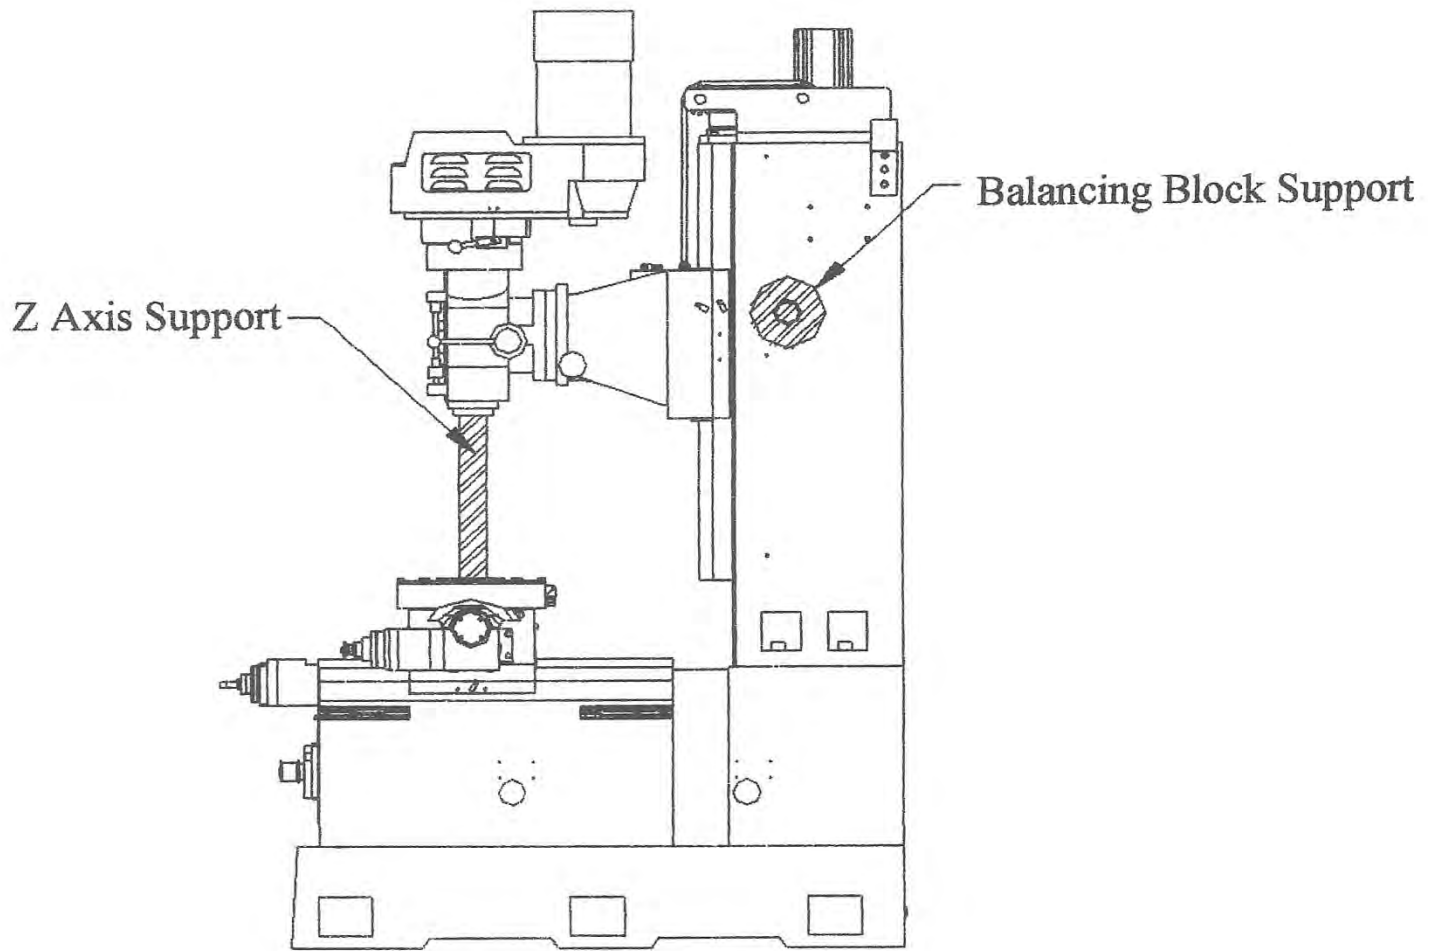

Figure 5-1
- c. Z axis ball screw is fixed by the wooden block under the spindle nose. (Fig 5-1)**
- d. Balancing block is tightened at column. (Fig 5-1)**